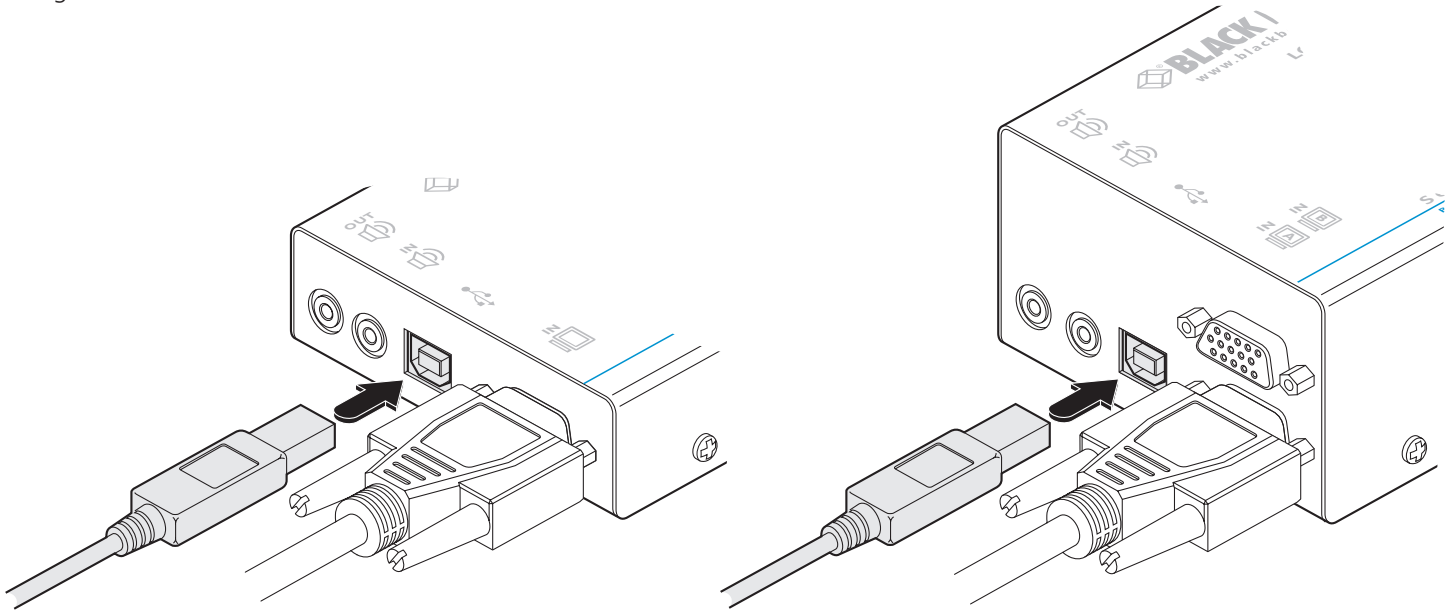

Figure 3-7. Attaching the USB link cable to the single- and dual-variant local modules
- 1 Use the supplied USB cable to link the USB socket of the local module to a vacant USB socket on the computer as shown in Figure 3-7: